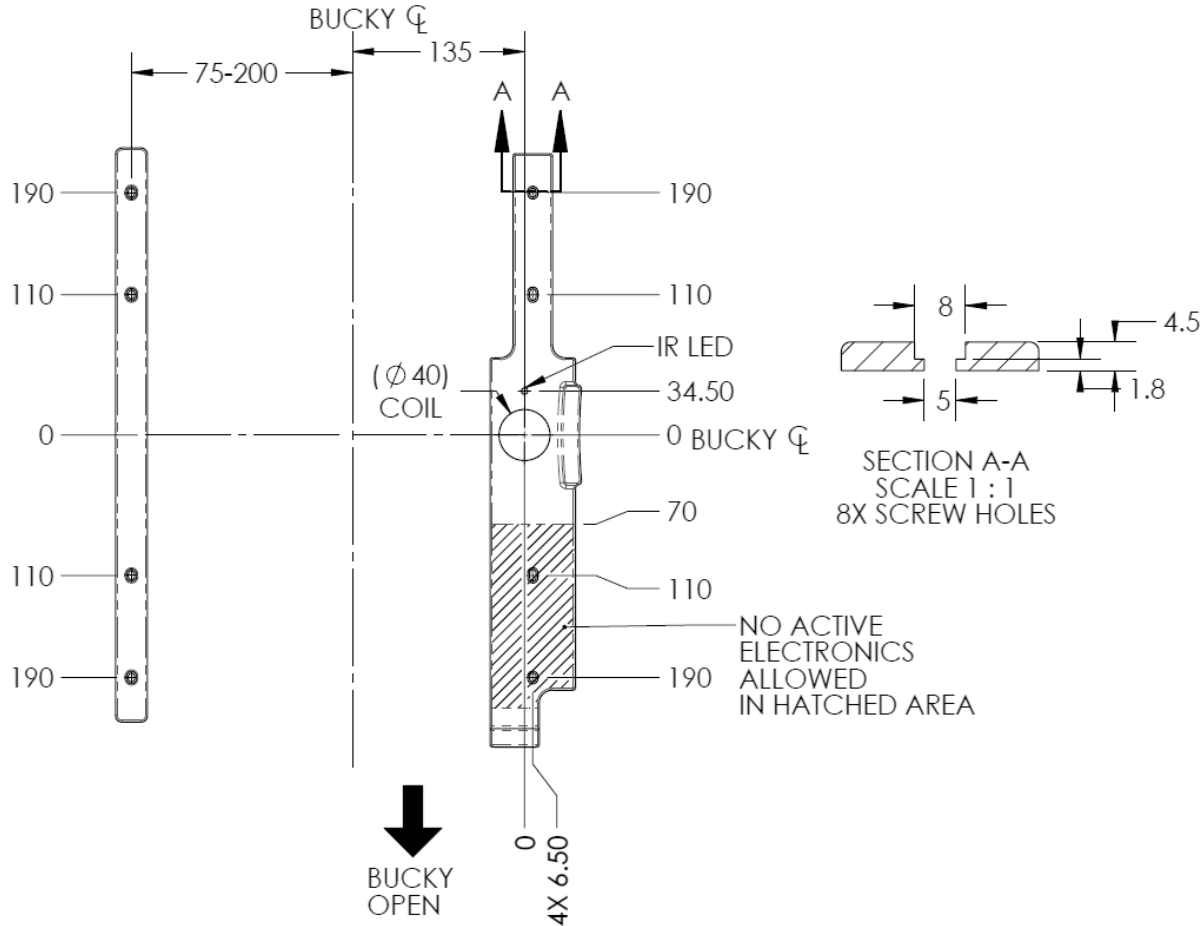
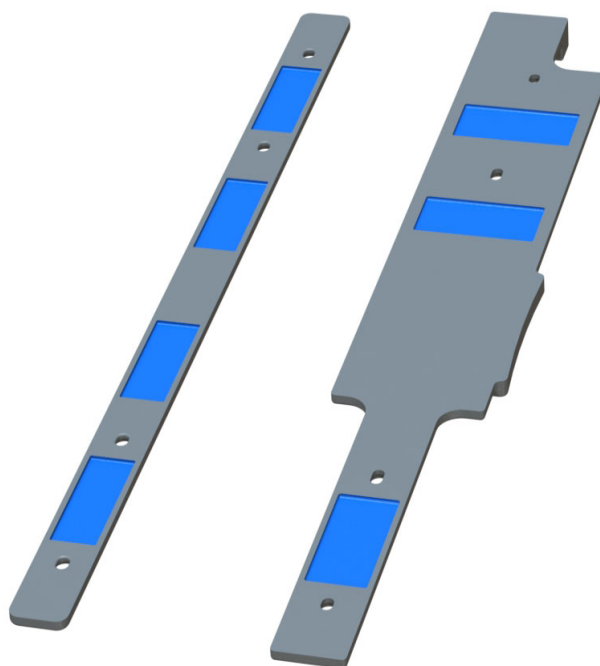
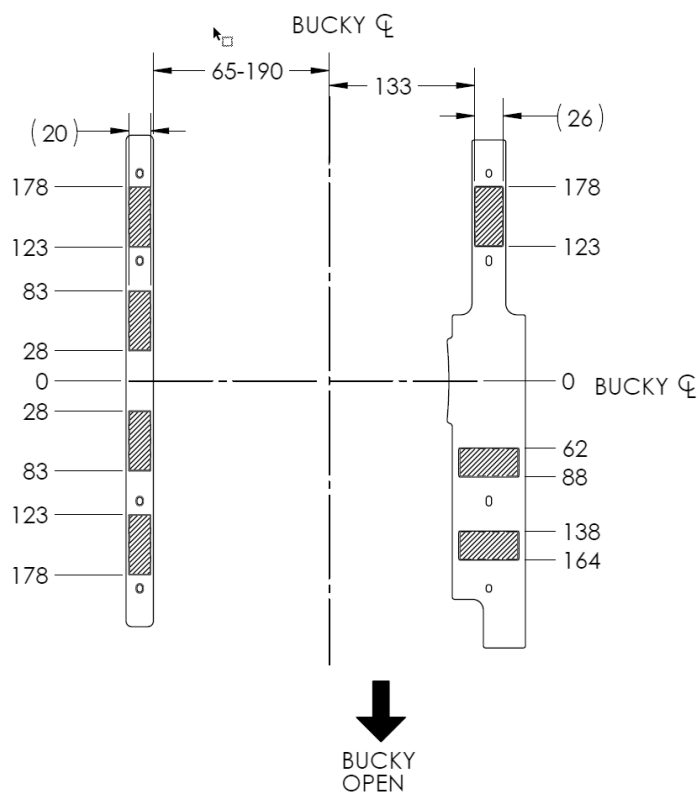

Figure 12 Varex Inductive Battery Charger Dimensions and Mounting Hole Locations
Figure 13 VHB Tape Placement Locations on Varex Inductive Battery Charger
Figure 14 VHB Tape Placement Dimension on Varex Inductive Battery Charger
- 2 Self-tapping screws with washers, machine screws with washers into PEM nuts (installed on the Bucky Tray), or VHB Tape may be used to attach the Varex Inductive Battery Charger and Detector Support into the Bucky Tray. Use Figure 12, Figure 13, and Figure 14 for mounting locations.